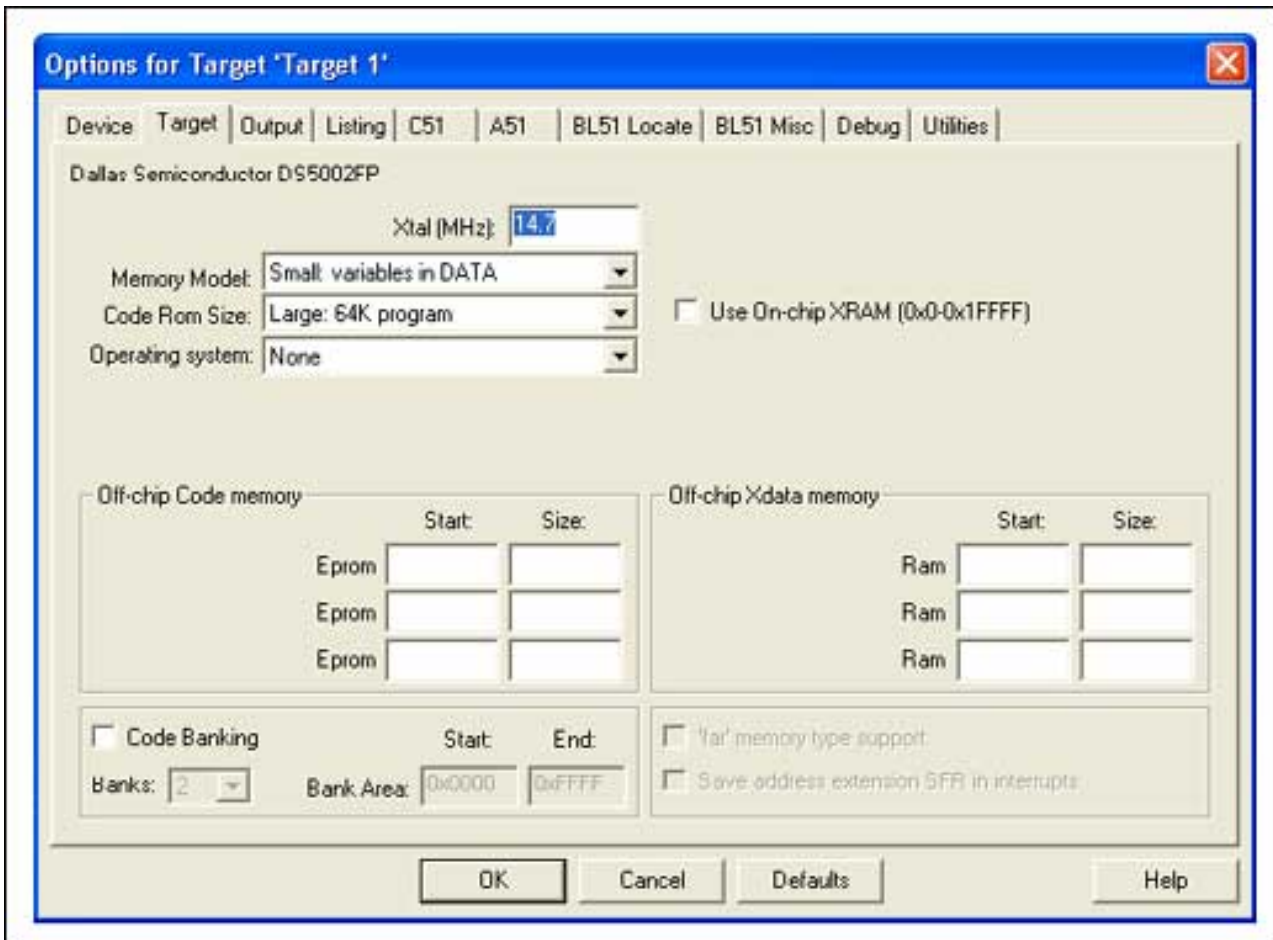

Figure 3. Project options target tab settings.
- Configure the project options by right clicking on Target 1 in the Project Workspace window, and select the "Options for Target 'Target 1'." Click on the Target tab, and type 14.7 into the Xtal box. Select "Small: variables in DATA" for the Memory Model, select "Large: 64K program" for the Code ROM Size, and select "None" for the Operating system as shown in **Figure 3** below. All other selections in this window can be left in their default state.